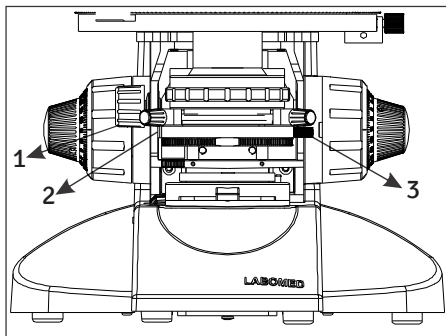

Fig. 10
This high quality primary polarizer (1) is 360 degree rotatable with fiducial marking (2) for quick identification of Polarized/ Cross Polarized positions fig.10
It is ideally located below condenser and with a lockable mechanism (3) fig.10 to stop polarizer filter at desired position for comfortable observation experience.